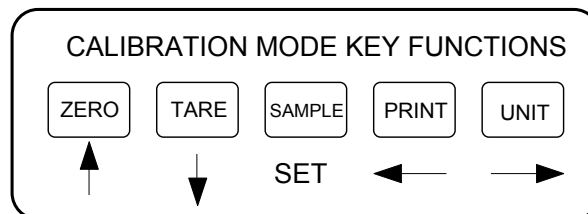

Figure 6-1: Calibration Mode Key Assignments
6. Use the four directional keys (shown in Figure 6-1 below) to adjust the displayed value to the actual test weight value. Increase the flashing digit by pressing the ZERO key. Decrease the flashing digit by pressing the TARE key. Pressing the PRINT key or the UNIT key will change the position of the flashing digit.